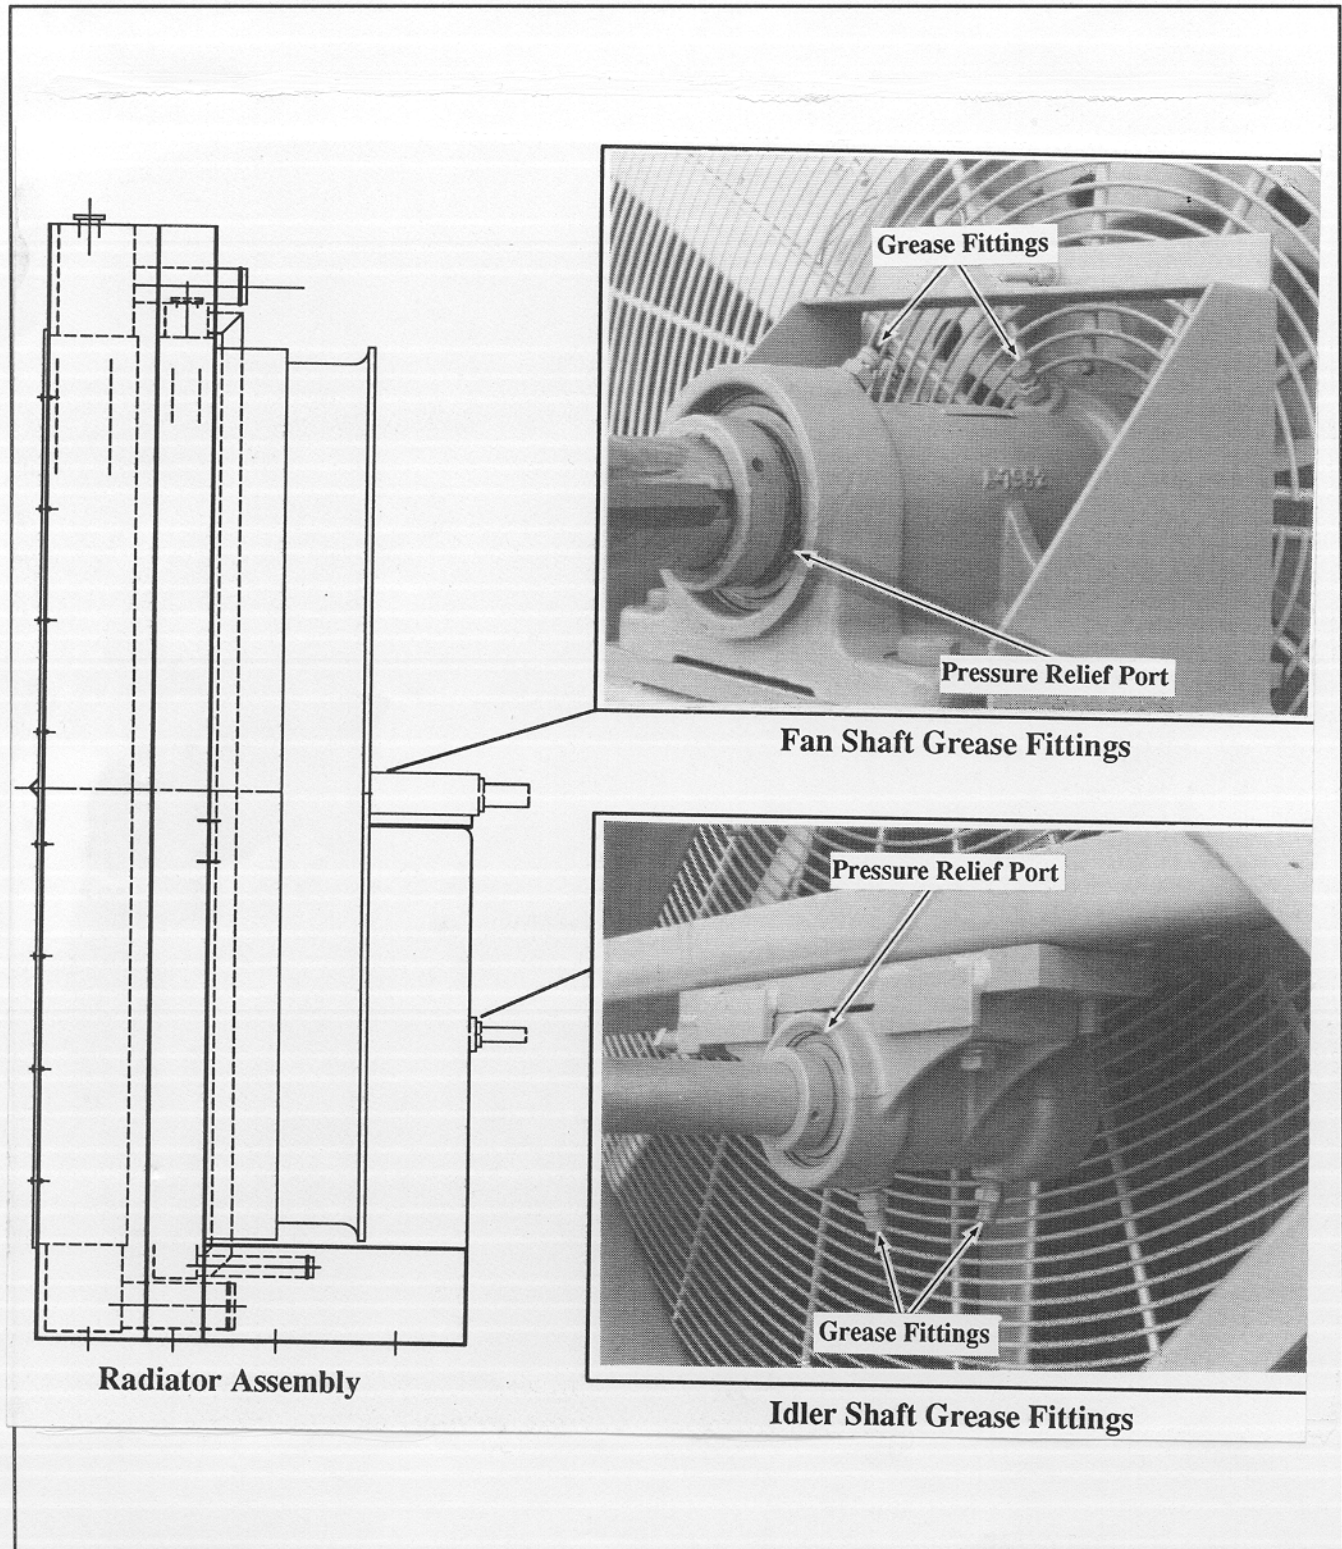

Figure 2. Radiator Fan Bearings and Pressure Relief Ports
3. Using a grease gun filled with specified grease, inject grease into the two bearings on the fan shaft block and the two bearings on the idler shaft block. See Figure 2. Inject grease until a 1/8–1/4 in. (3–6 mm) grease column shows at the bearing pressure relief port.